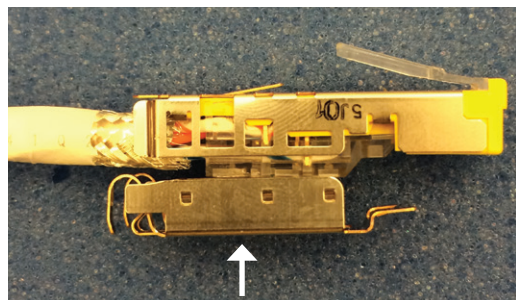

Figure 16: Inserting the metal EMI shell
14. Insert the metal EMI shell onto the bottom of the connector and click into place (Figure 16).